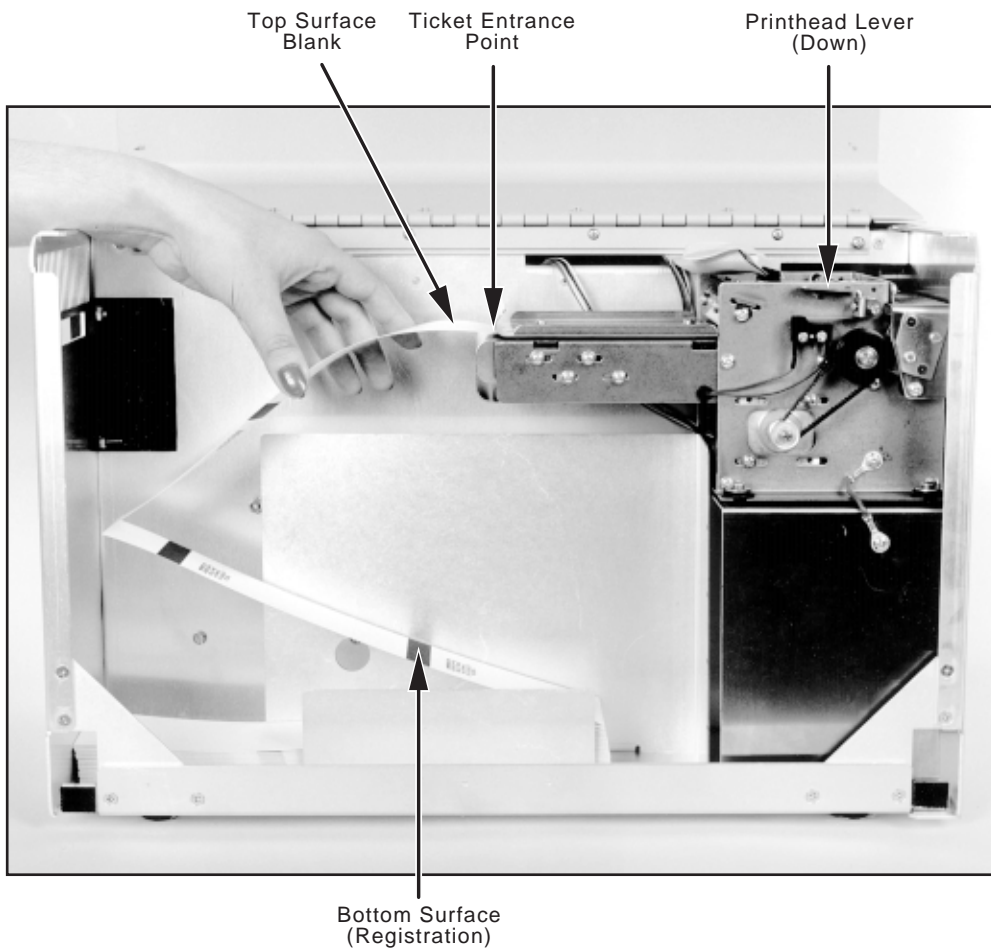

Figure 2-5. Loading Ticket Stock
- c. Turn on the rear panel power switch and check that the print head lever (Figure 2-5) is in the down position.
- d. Load the ticket stock as shown in Figure 2-5, with the black registration marks on the bottom of the tickets and closest to the leading perforation.